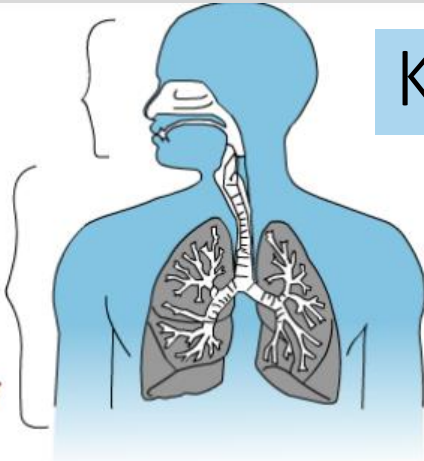

Figure 1:
**Figure 1.** Tri-modal particle size distributions using different particle metrics (number, surface area, lung deposited surface area, and mass). For this figure,  $D_p$  is the particle diameter, UFP are ultrafine particles, and PM stands for particulate matter.